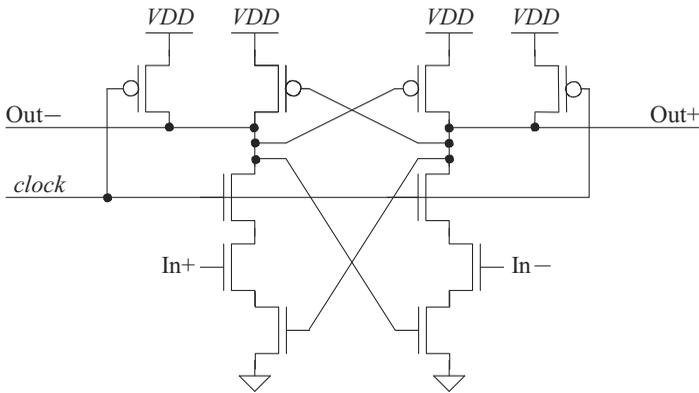

Figure 16.72 An alternative clocked sense amplifier.
- 16.7 Figure 16.72 shows a clocked comparator topology based on the topology seen in Fig. 16.32. The location of the imbalance MOSFETs has been moved in this figure. Comment on the merits and disadvantages of this topology compared to the one in Fig. 16.32. Simulate the operation of this circuit.